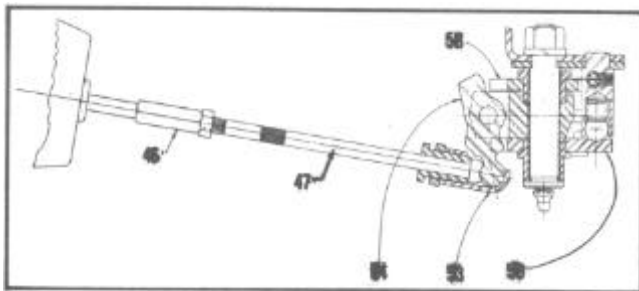

FIGURE 29
With engine not running shift transmission into high gear and adjust length of selector diaphragm rod (48), Figure 29, until it is just long enough to allow selector key (54) to bottom solidly in the slot in hand shift lever (59). Check this adjustment by starting engine and shifting transmission to neutral. Selector key (54) should bottom solidly in the slot in power shift lever (59). If it does not, recheck above adjustment.
**CAUTION:** While adjusting length of rod (46) hold diaphragm rod end (48) with a wrench to prevent rod from turning and damaging diaphragm.